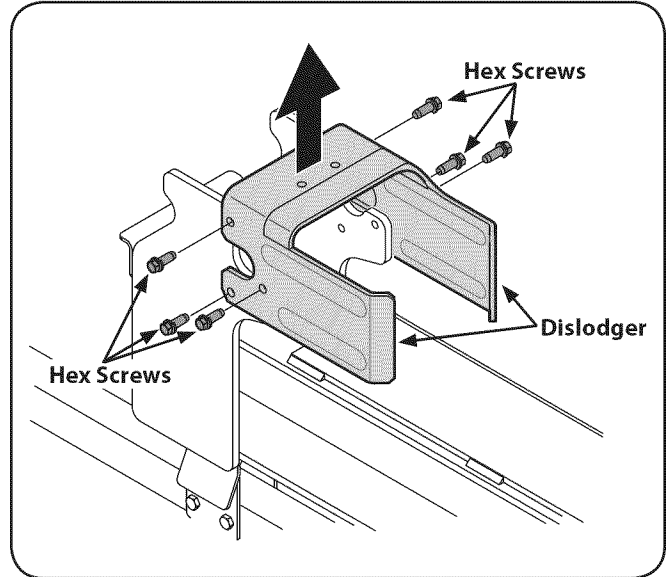

Figure 3-4
- Disconnect the dislodger from the beam weld bracket by removing the six hex screws. See Fig. 3-4.
17. Attach the dislodger over the wedge assembly and secure it to the weld brackets with the previously removed hardware. See Fig. 3-4.